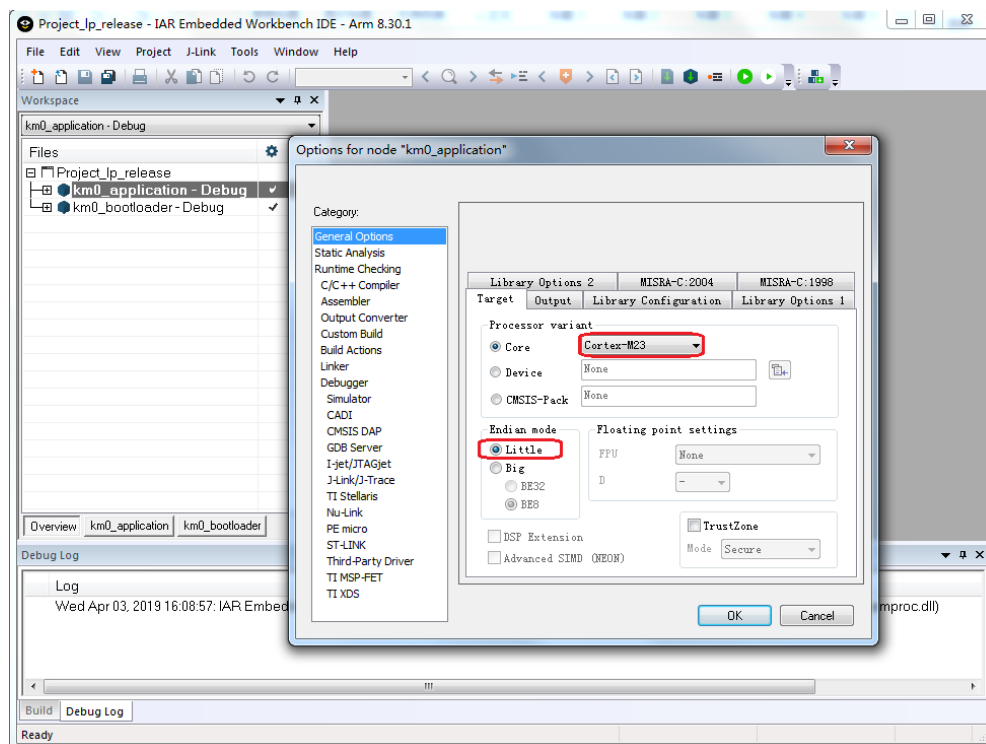

Fig 3-1 KM0 processor options
- (1) Open **ambd_amazon-freertos\projects\realtek\amebaD\IAR\aws_demos\Project_lp_release.eww**.
- (2) Make sure km0_bootloader and km0_application are in Workspace. Click **Project > Options, General Options > Target > Processor Variant > Core**, verify the CPU configurations according to Fig 3-1.